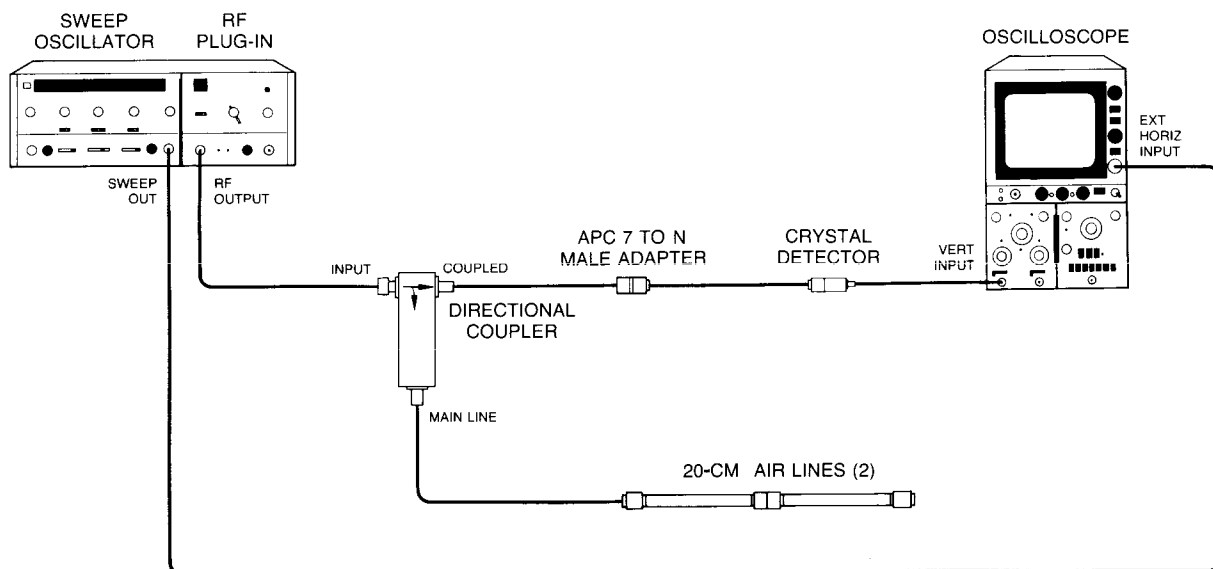

Figure 4-12. Equivalent Source Match SWR Test Setup
a. Connect equipment as shown in Figure 4-12. Allow 30 minutes warm-up time. Set controls as follows: